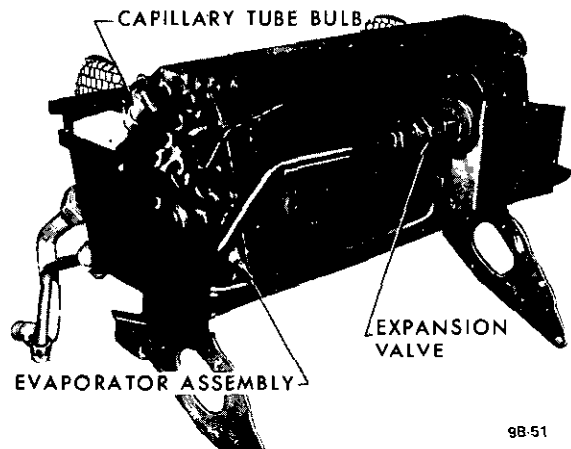

Figure 9B-70 Evaporator and Expansion Valve Assembly • Opel 1900 Manta
14. Disconnect expansion valve capillary tube bulb attached to the outlet pipe of the evaporator. See Figure 9B-70.